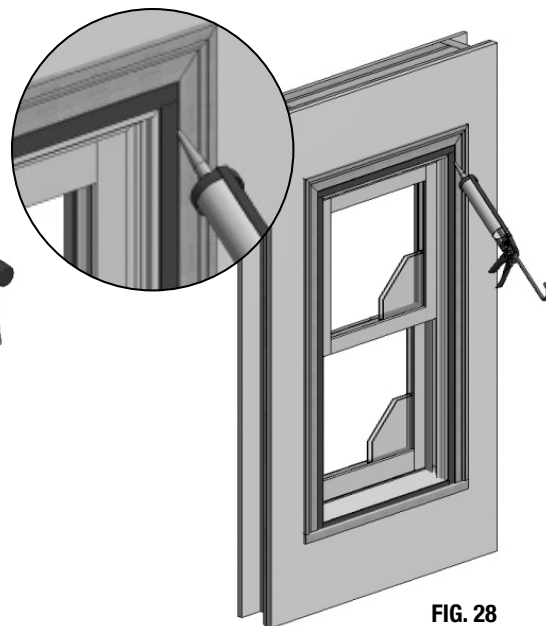

FIG. 28
- K) Using an exterior grade sealant, apply approximately 3/16" bead of silicone between the frame expander and the brickmould for both sides and head of window. (Fig. 28) **Note: Do not apply sealant to sill.**